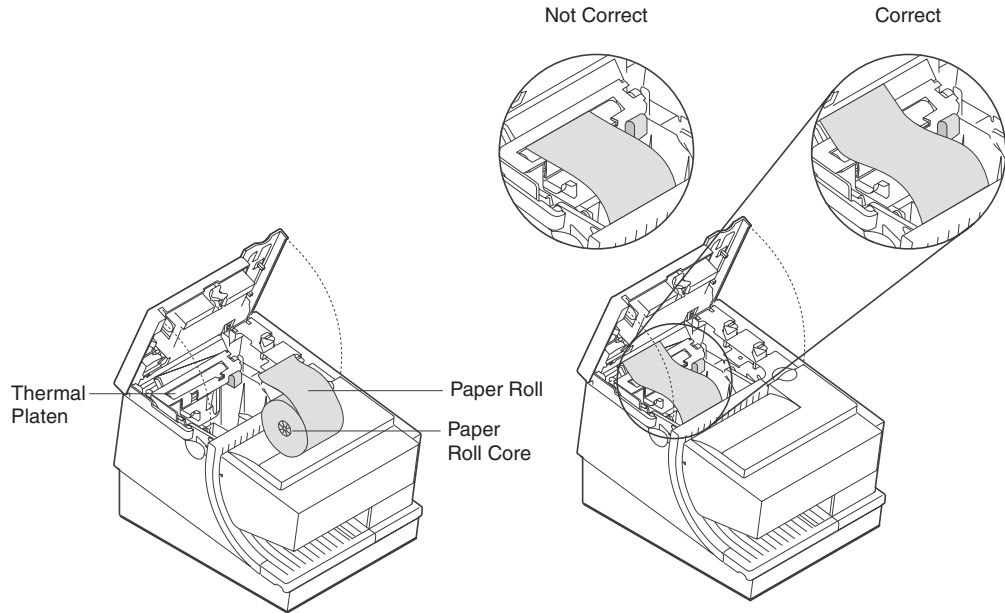

Figure 29. Paper loading path (Models T11, T12, T13, T14, T18, T19, TG3, TG4, TG8, and TG9)
3. See Figure 29 on page 54 and place the paper roll into the paper roll bucket as shown. The leading edge of the paper should come from the direction of the front of the printer and go across the top of the roll as shown in the diagram. If it feeds from the bottom of the roll, nothing will be printed on the paper.
4. See Figure 29. Place the leading edge of the paper over the metal guide.